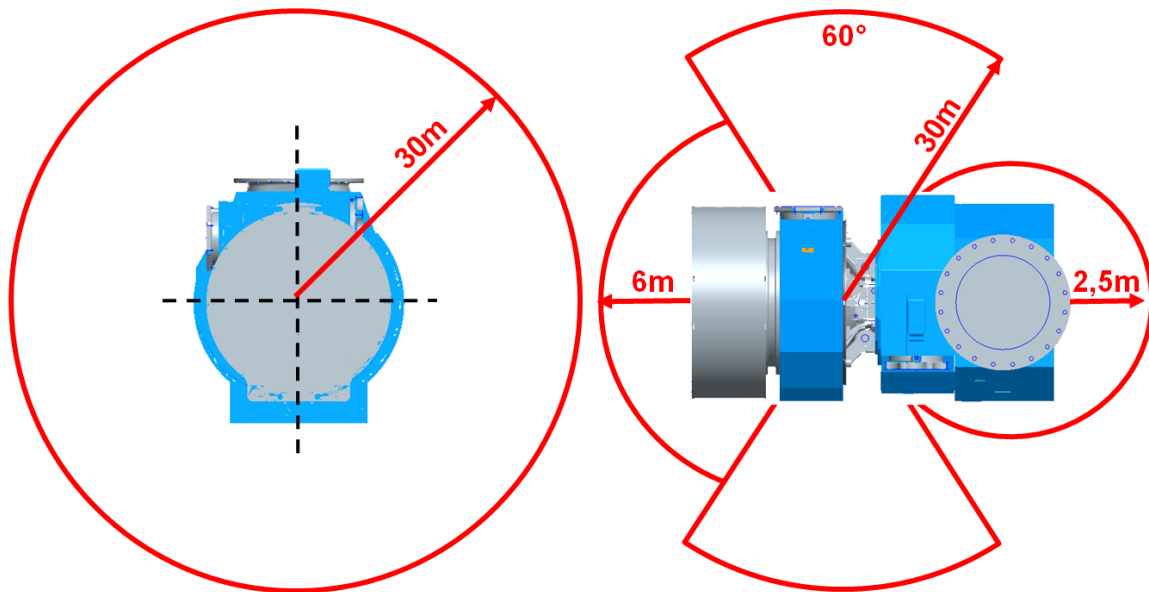

Fig. 1: Red zone = hazardous area (extended compared to the area in the Instruction Manual)
Fig. 1: Red zone = hazardous area (extended compared to the area in the Instruction Manual). We are aware that in most cases the space available around the turbocharger(s) is less than the given 30 m. However it indicates the area where the highest risk is assumed.
1. We recommend to prohibit all persons to access the hazardous area of the turbocharger, Fig. 1, at least during the first 4 hours of operation (run-in period) of the engine.